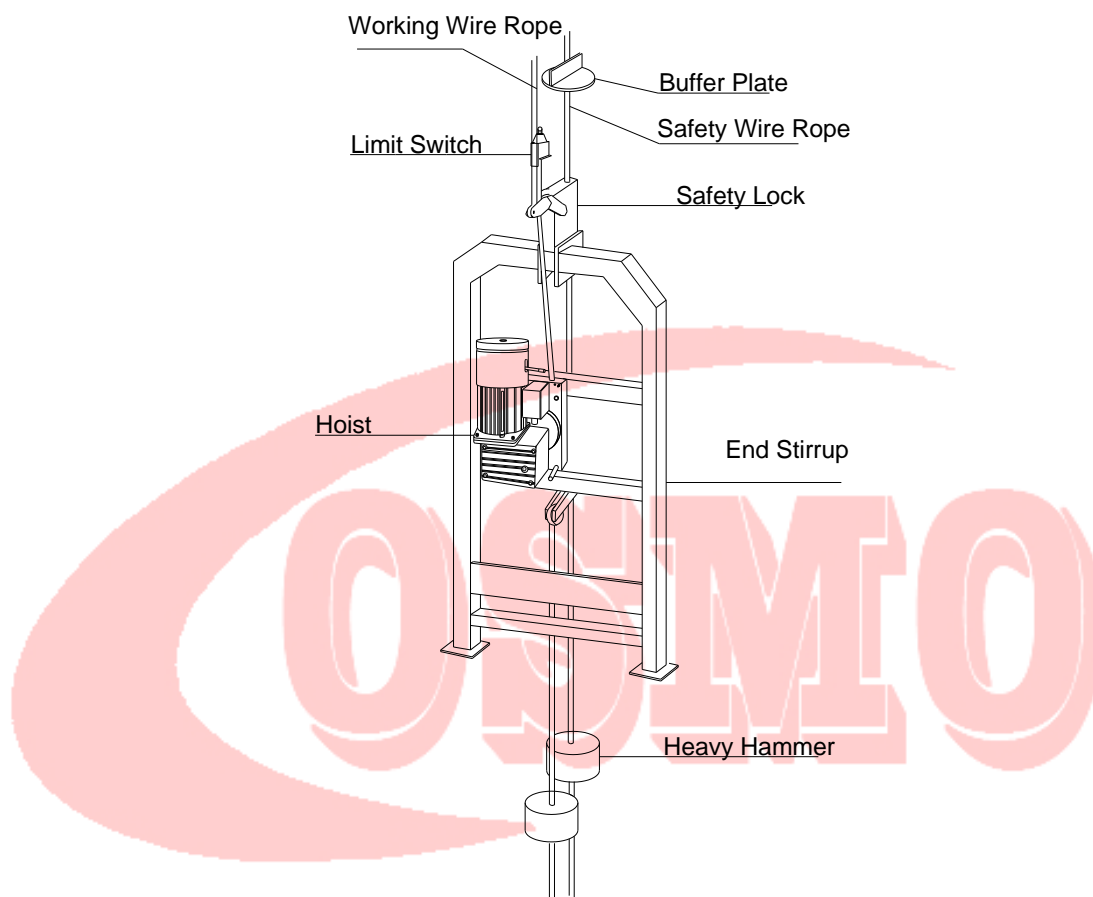

Figure 18 Wire Rope Installation
5.6.2 Working wire rope installation (see Figure 18)
5.6.3 Safety rope installation (See Figure 18)